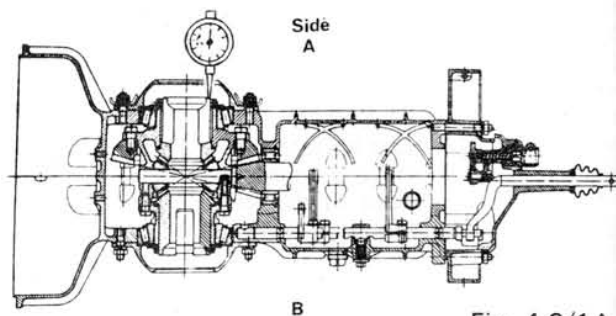

Fig. 4.3/1A
4. Fit Dial test gauge so that pointer rests on the differential as shown in fig. 4.3/1A.